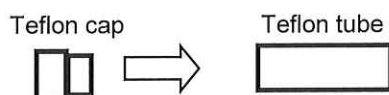

Fig 2 Setting the teflon cap to one end of teflon tube
- 2) Seal one end of the teflon sample tube with a teflon cap (fig 2).